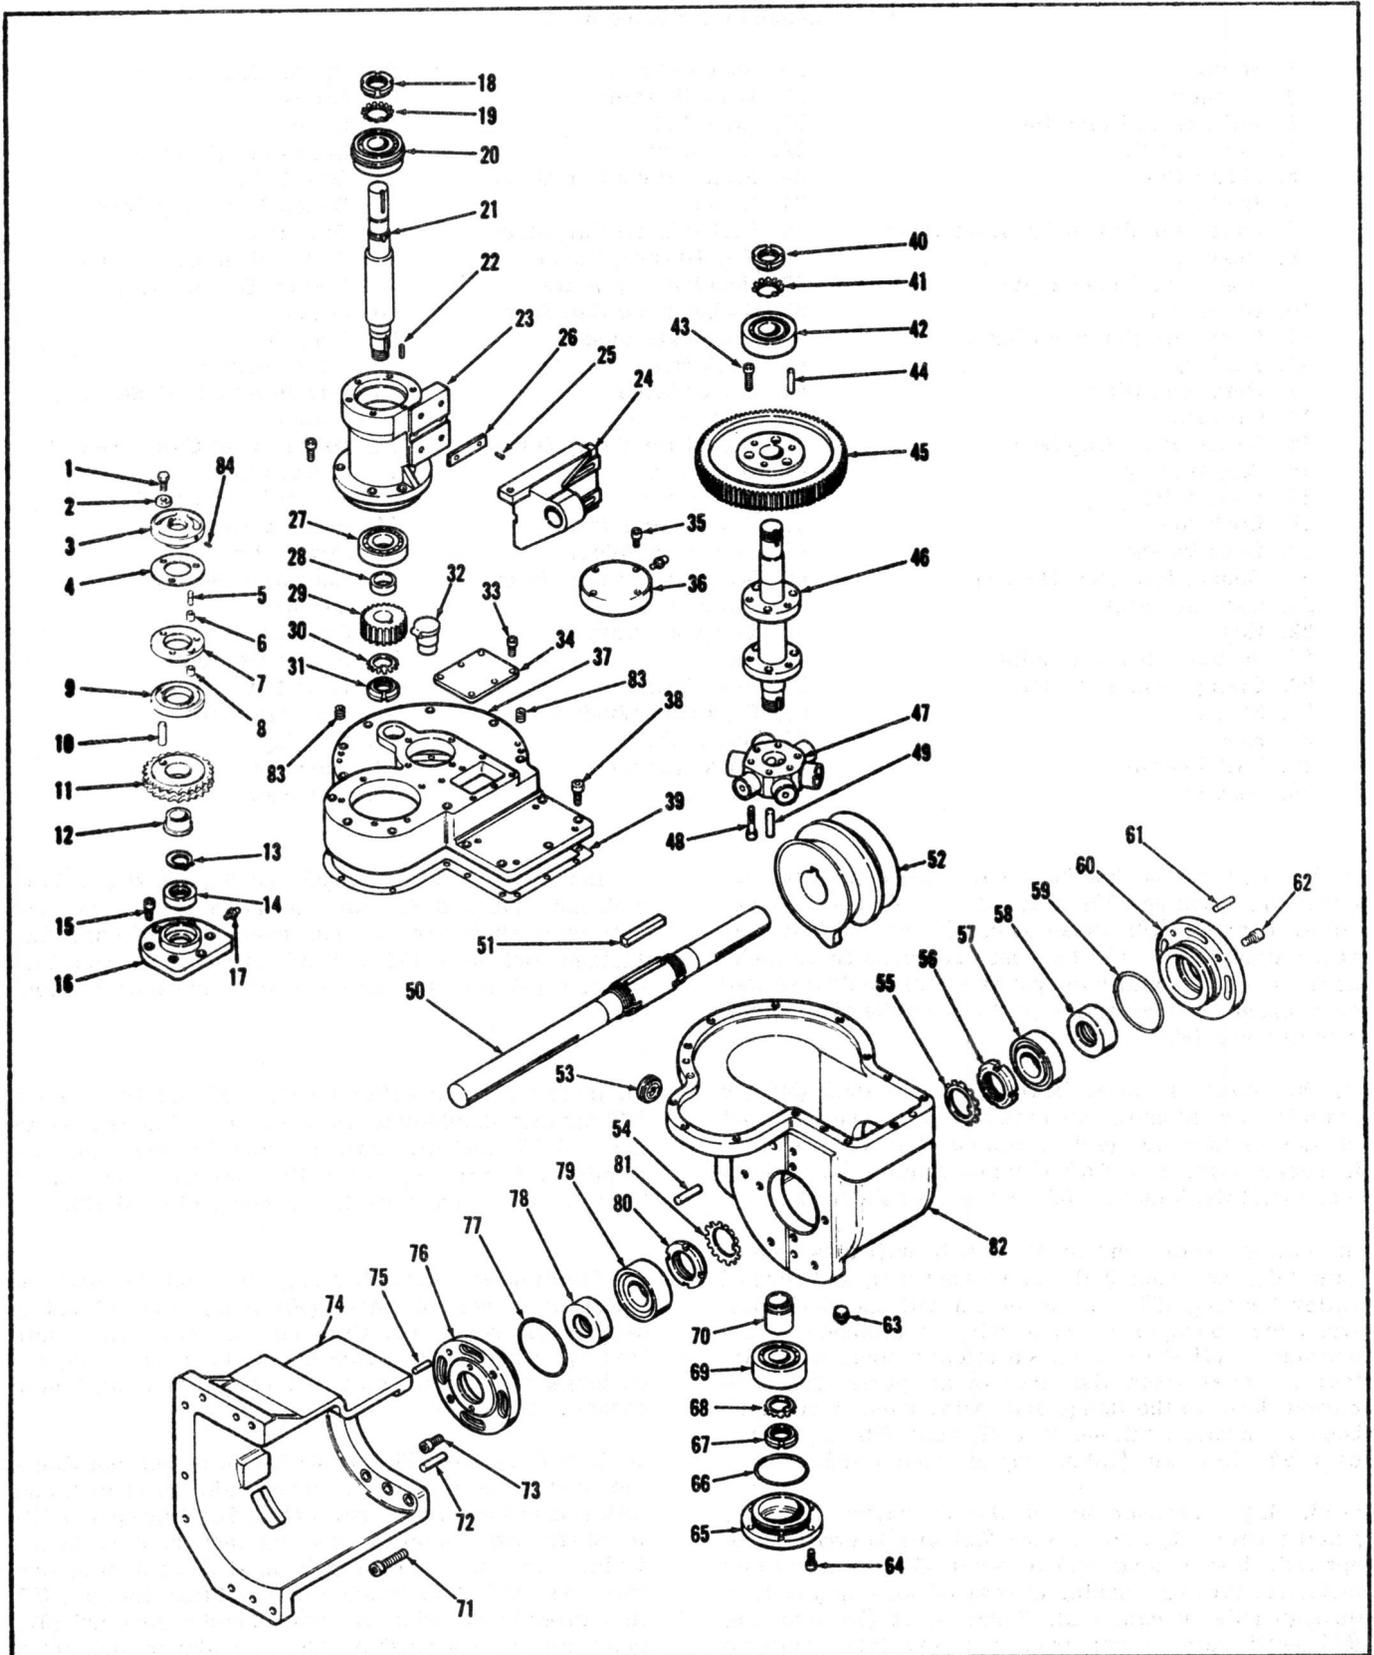

Figure 6-13. Disassembly of Conveyor Drive Assembly
Disassemble and reassemble the conveyor drive assembly (Figure 6-13) as follows:
(1) Remove pipe plug (63) and drain all lubricant from housing.
(2) Remove vacuum pickoff actuating valve from rear of conveyor drive housing.
(3) Remove socket head cap screws to disconnect drive flange from cycle shaft flange.
(4) Support the conveyor drive assembly with a sling or other device. The drive weighs approximately 100 pounds. Remove five socket head cap screws (71, Figure 6-13) and separate the conveyor drive assembly from housing extension (74).
e. Remove 15 socket head cap screws (38) from housing top plate (37). There are five short cap screws (38) along the flat flange area of the top cover, seven 2 inch long cap screws around the large circle, and three 2-1/2 inch cap screws around the smaller circle of the cover. Located around the periphery of the top cover are two setscrews (83) which can be used to separate the top plate (37) from housing (82). Turn in the setscrews (83) until top plate (37) becomes free. Carefully raise top plate assembly (37) from the housing assembly (82).
f. Sprocket shaft (21), sprocket shaft housing (23), and associated parts may be disassembled from top plate (37) as follows:
Legend for Figure 6-13